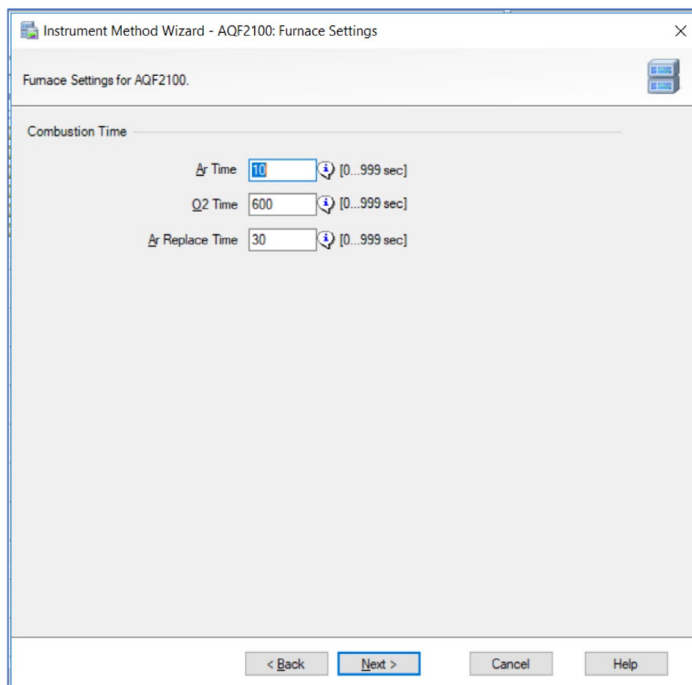

Figure 18. Creating the Instrument Method: Default furnace settings
11. Use default settings for Furnace Combustion Conditions (Figure 18).